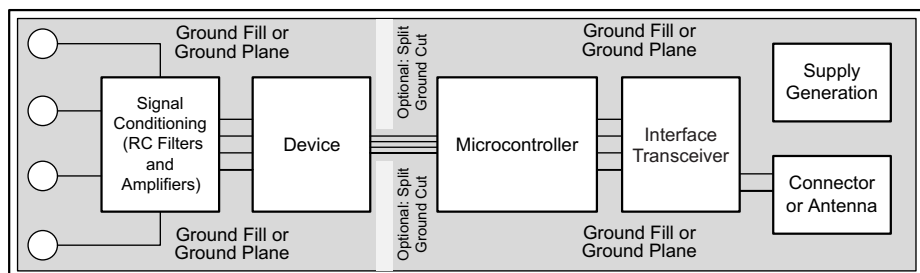

图 82. System Component Placement
Employing best design practices is recommended when laying out a printed-circuit board (PCB) for both analog and digital components. This recommendation generally means that the layout separates analog components [such as ADCs, amplifiers, references, digital-to-analog converters (DACs), and analog MUXs] from digital components [such as microcontrollers, complex programmable logic devices (CPLDs), field-programmable gate arrays (FPGAs), radio frequency (RF) transceivers, universal serial bus (USB) transceivers, and switching regulators]. 图 82 shows an example of good component placement. Although 图 82 provides a good example of component placement, the best placement for each application is unique to the geometries, components, and PCB fabrication capabilities employed. That is, there is no single layout that is perfect for every design and careful consideration must always be used when designing with any analog component.